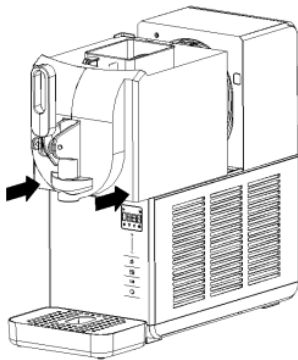
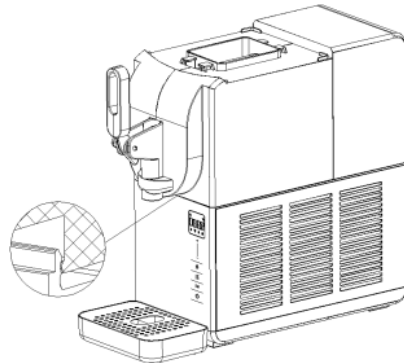

Fig.18
Fig.19
6. Align the assembled loading barrel component with the box sliding groove and push it towards the rear wall. The correct operation is to push the water tank component at the bottom left and right corners of the loading barrel, which is more convenient (as shown in Figure 18), ensuring that it is completely installed on the sealing ring, and that its lower hook is effectively stuck inside the box (as shown in Figure 19).